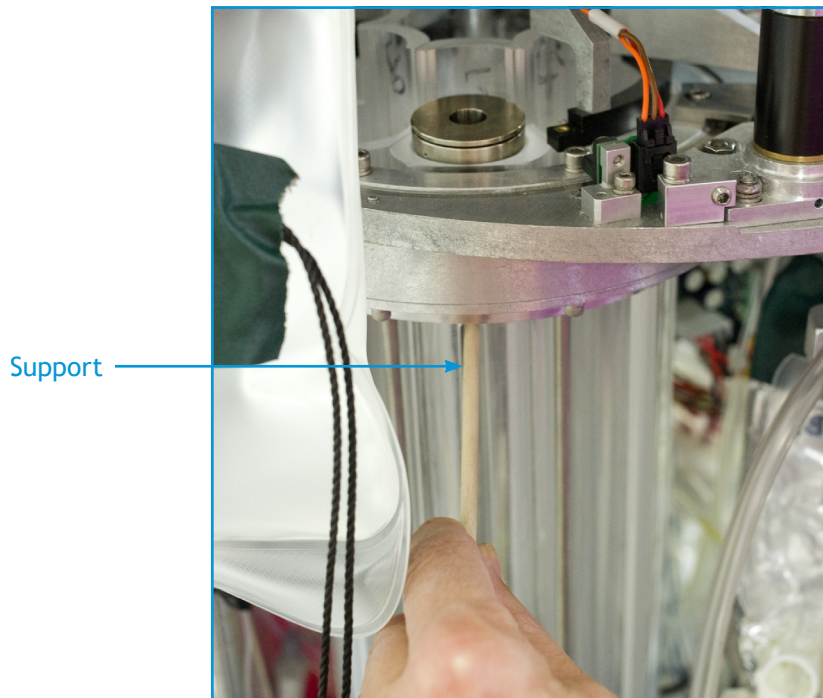

Figure 3-19: Raising stack to load a puck
7. Loading the tube from the bottom up, take a prepared puck, verify it against the carousel loading map, and place the puck in the tube on top of the stick (see Figure 3-19). Lower the support just enough to allow next puck to be placed in the tube. Place the next puck on top of the stack. Repeat this process until the tube is full (i.e., 22 pucks have been loaded). Gently remove the support from the bottom of the stack.